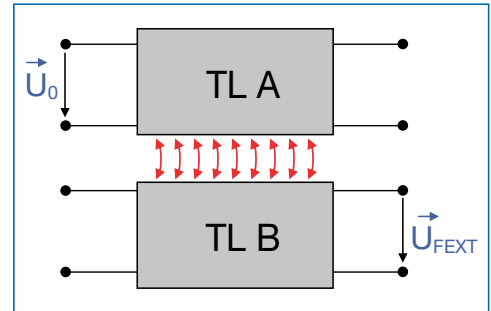

Fig. 10
- Far End Crosstalk (FEXT, see Fig. 10).
The applied interconnection cable is designed as a star quad. Detailed information concerning the cable are listed in several data sheets of the cable manufacturers. The construction shown in Fig. 10 shows the principle construction of the star quad cable.